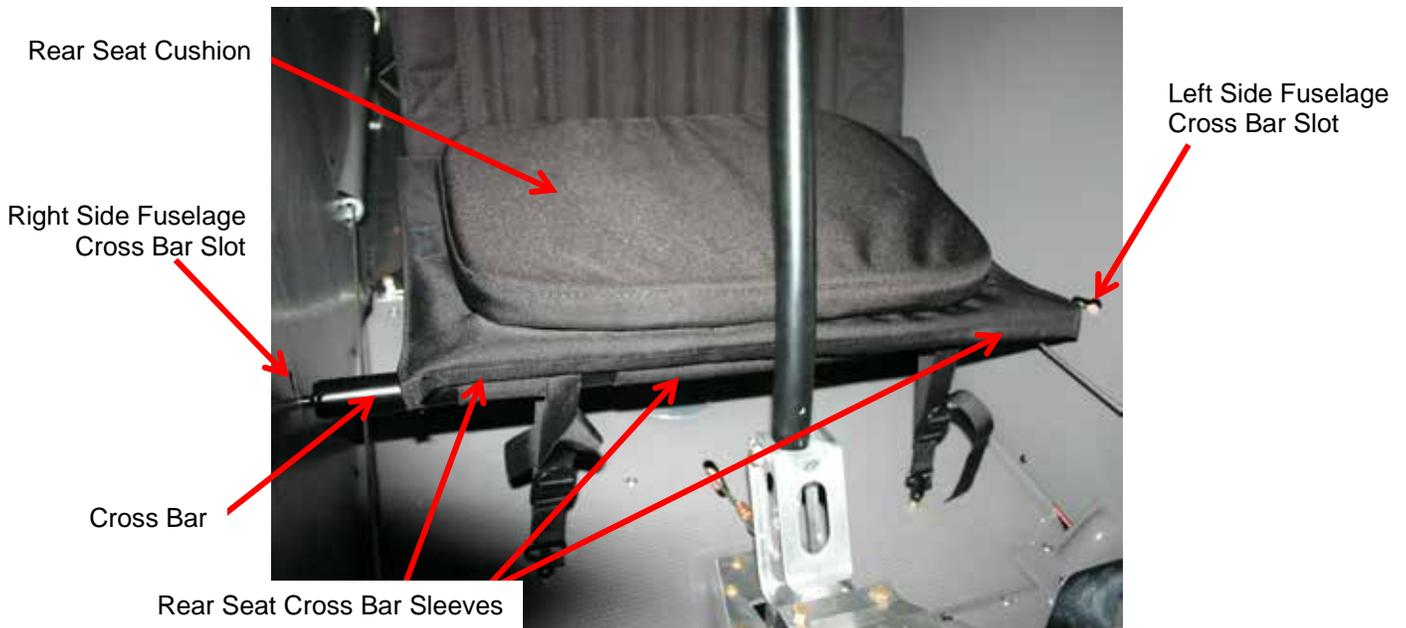

Figure 5 – Rear Cross Bar and Strap Attachment
- (b) Remove cross bar from fuselage slots. Slide the seat straps and nylon straps off of the cross bar. Place and secure cross bar in aft storage compartment. Remove cushion from seat (see Figure 5).
- (a) Slide the seat straps and nylon straps on the cross bar in the correct order. Install the cross bar into the fuselage slots (see Figure 5).